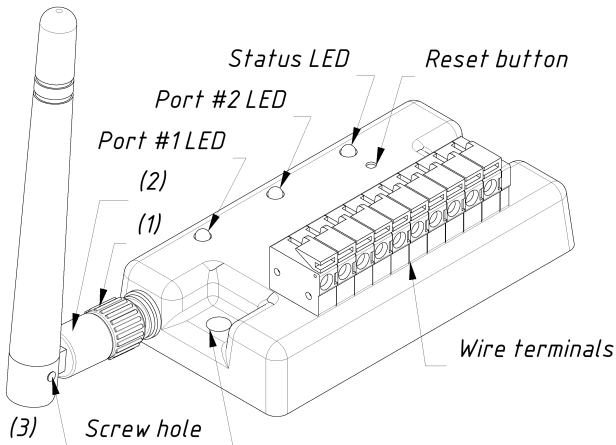

Figure 1. Gateway LEDs and terminals
If the antenna is not connected, connect the antenna first. Part (2) of the antenna base (see Figure 1) rotates relative the part (1) with notches. At the point (3), the angle of the antenna changes between horizontal and vertical positions. The signal is better when the antenna has vertical orientation.
Terminals, from the left to right (Figure 1):